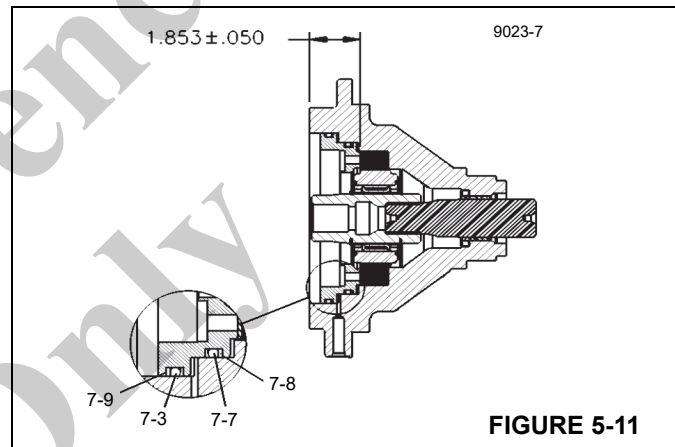

FIGURE 5-11
13. After installation, check the brake stack-up to make sure that the dimensions are within the tolerance shown in Figure 5-11. If your measurement is greater than shown, either some friction disks and stator plates have been left out, or the friction discs are worn beyond acceptable tolerances. If your measurement is less than shown, too many plates or discs have been inserted or they are not seated properly.
14. Coat the new O-rings and backup rings (7-2, and 7-7—7-9) with light oil and install onto the piston (10). See Figure 5-11 for proper O-ring/backup ring installation.